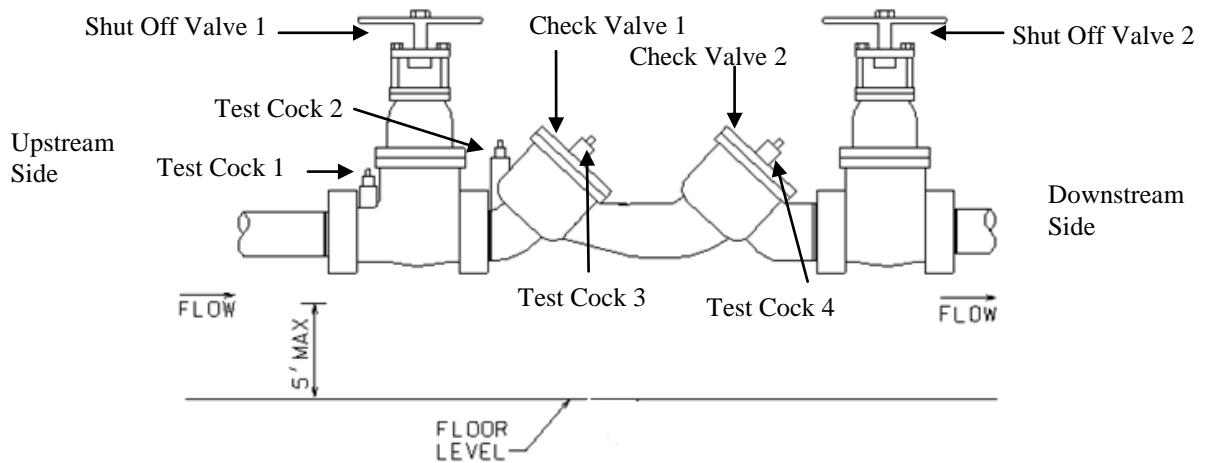

Figure 4- 02519-d (DC, Size 3/4" to 2" BFD)
Note: See Figures 4-02519-d through 5-02519-e for test cock locations
- C. DC devices shall be installed in accordance with the installation drawing of these specifications (See Figures 4-02519-d and 5-02519-e) and according to manufacturers' instructions. Any variations in this drawing must have prior approval of the OWNER.